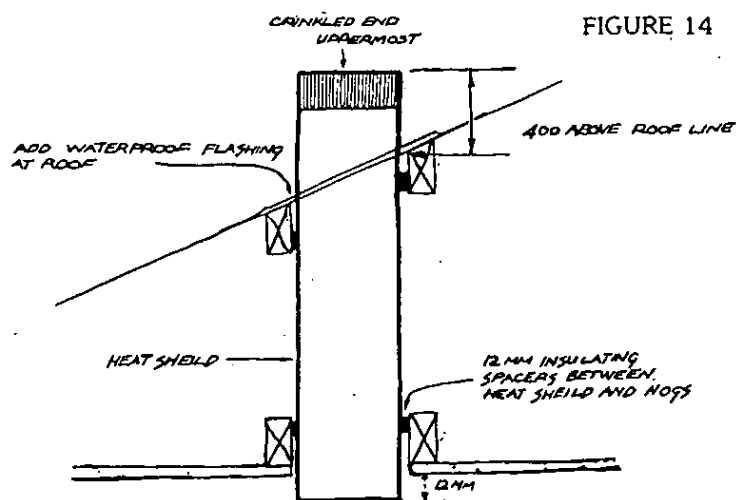

FIGURE 14
2.1.2 On the same centre-line cut a 250 mm diameter hole through the roof and secure suitable nogs to the roofing timbers forming a 275 mm square opening to which the top of Heat Shield may be secured. With the crinkled or swaged end uppermost and the lower end protruding 12 mm below the ceiling, nail or screw the Heat Shield in place using four 12 mm thick insulating spacers at each end, Figure 14.
The top of the Heat Shield must be at least 400 mm above the roof as shown in Figure 14. If more than 400 mm of the Heat Shield protrudes above the roof, the Shield may, but need not, be trimmed. The Heat Shield should now be flashed to waterproof the joint.